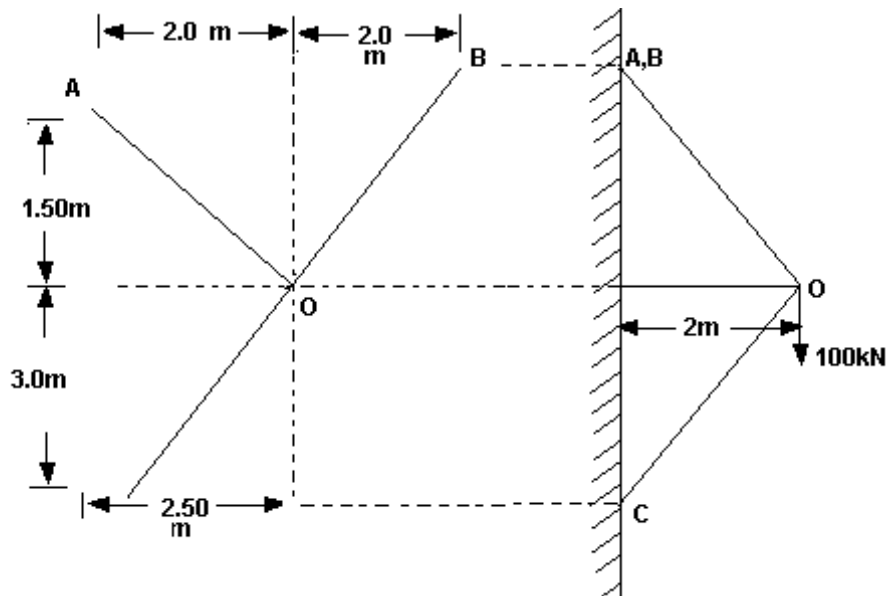

Figure 1:
3. Figure 1 shows two views of a tripod bracket. All connections are pinned. Find the forces in magnitude and nature in the three members due to a vertical load of  $100\text{kN}$  action at O. Use tension coefficient method. [16]